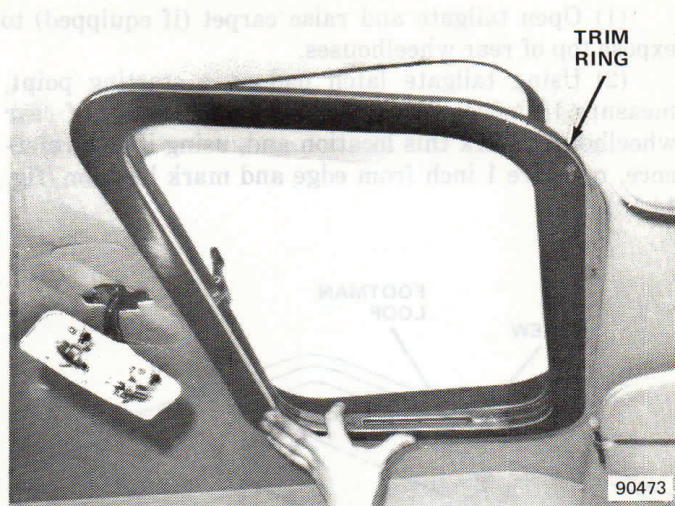

Fig. 14-16 Positioning Trim Ring
(13) Position trim ring (fig. 14-16), drill three 7/64-inch holes through trim ring into base frame and secure with setscrews.
(14) Install dome lamp.